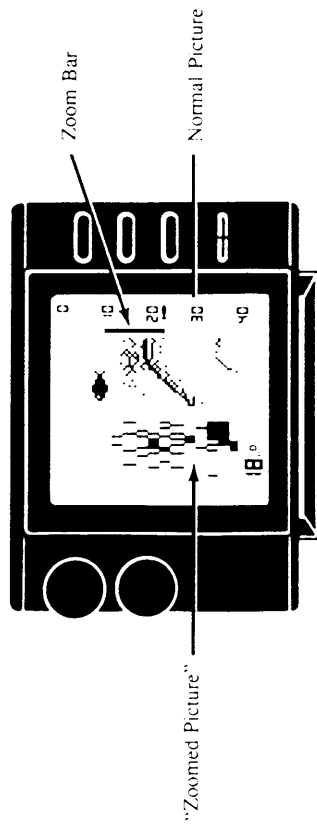

Figure 10—Echo 220 Zoom Feature
To activate the **Zoom** feature, press **Down** symbol (V) on the button labeled **“Zoom”** and a small vertical bar will appear at the top of the right side of the display and the display will split to show the **“Zoomed”** area on the left side of the display. As you hold down the button, the vertical **“Zoom”** bar will move downwards to allow you continuously adjust the **“Zoomed”** area. Use the **Up/Down Zoom** button to position the **“Zoom”** bar next to the area you wish to expand and view the results on the left side of the split screen display. The right side of the display continues to show the original display. See *Figure 10* below.